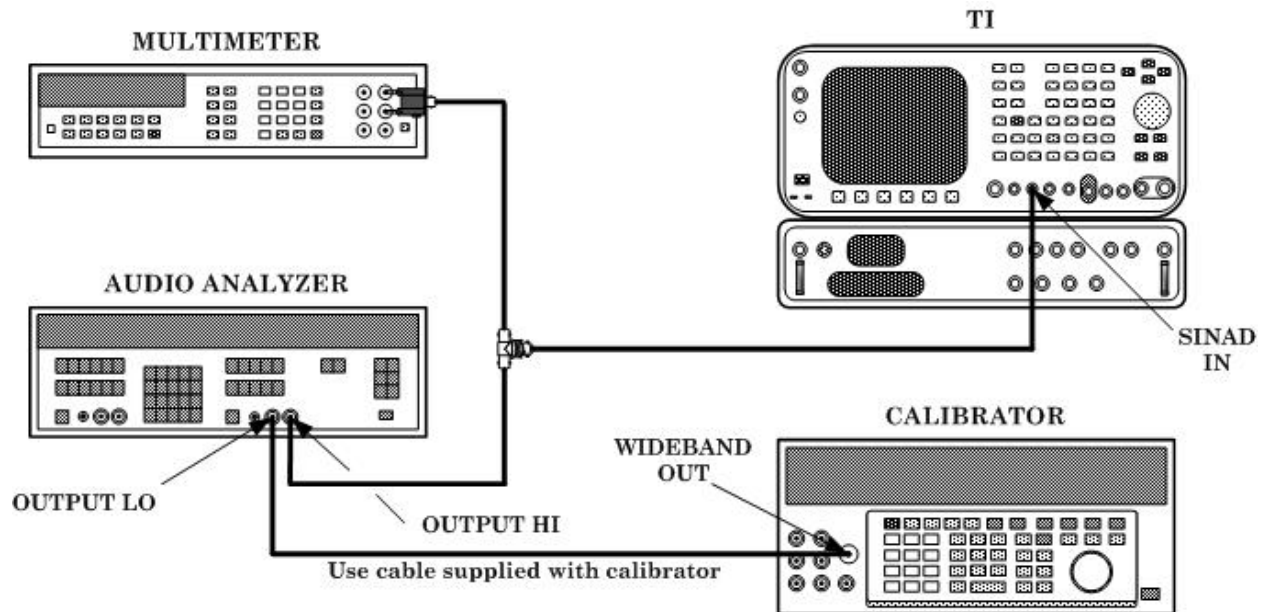

Figure 3. SINAD/distortion accuracy connection.
(2) Connect equipment as shown in figure 3. Set audio analyzer source level to minimum, multimeter to measure volts ac, and press calibrator **WIDEBAND** key on.
(1) Connect equipment as shown in figure 3. Set audio analyzer source level to minimum, multimeter to measure volts ac, and press calibrator **WIDEBAND** key on.
(2) Press key sequence listed in (a) through (f) below: